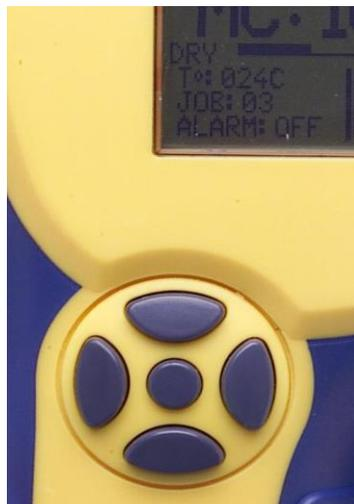

Fig. 1 Keypad Layout
The meter uses an on-screen, menu-driven approach to navigate through the meter features, allowing for an intuitive understanding of keypad functions. Each screen presents the user with a number of selectable options. One of the options is always selected and the user can move (navigate) the selection to any other available option. The keypad is aimed at providing navigational control, and not at accessing specific features. There are four directional keys aligned intuitively around a middle (fifth) key (see Figure 1): Above (UP), below (DOWN), to the right (RIGHT) and to the left (LEFT). The middle key is used to SELECT the option highlighted on the screen. For purposes of this owner's manual, the five keys will be referred to as